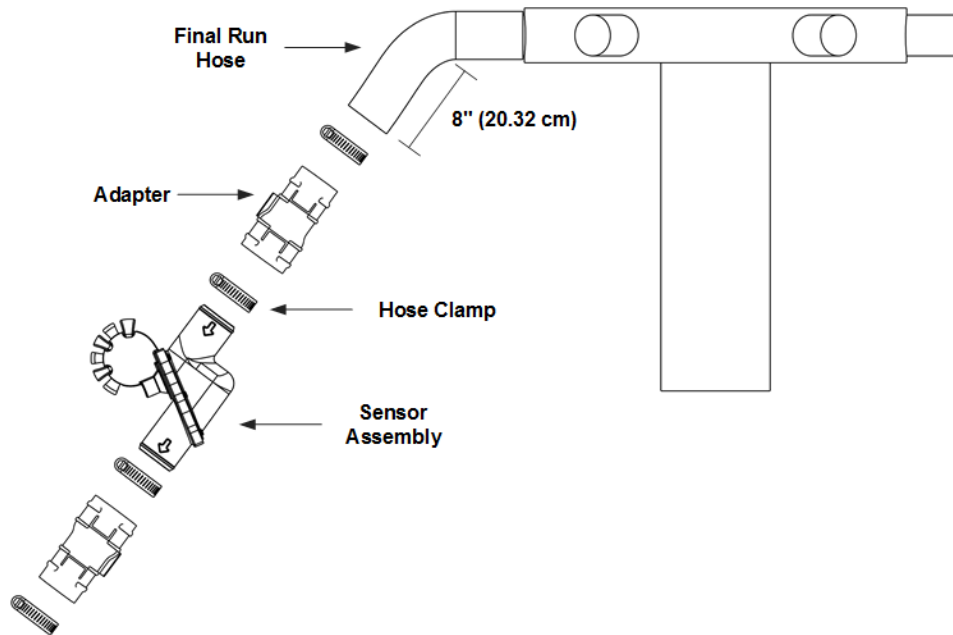

Figure 11: Installing 1.25-inch flow sensors on a manifold
2. Place the adapters on the sensor as shown in Figure 11 and secure using hose clamps.